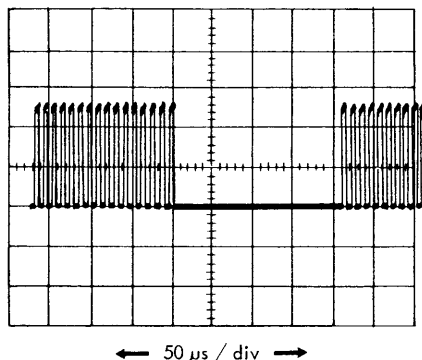

Figure 19. Clock Track Gap (1Zd)  $210 \pm 20 \mu\text{s}$
15. Check the clock track gap (See Figure 19).
- e. The gap should be  $210 \pm 20 \mu\text{s}$  long (See Figure 19).